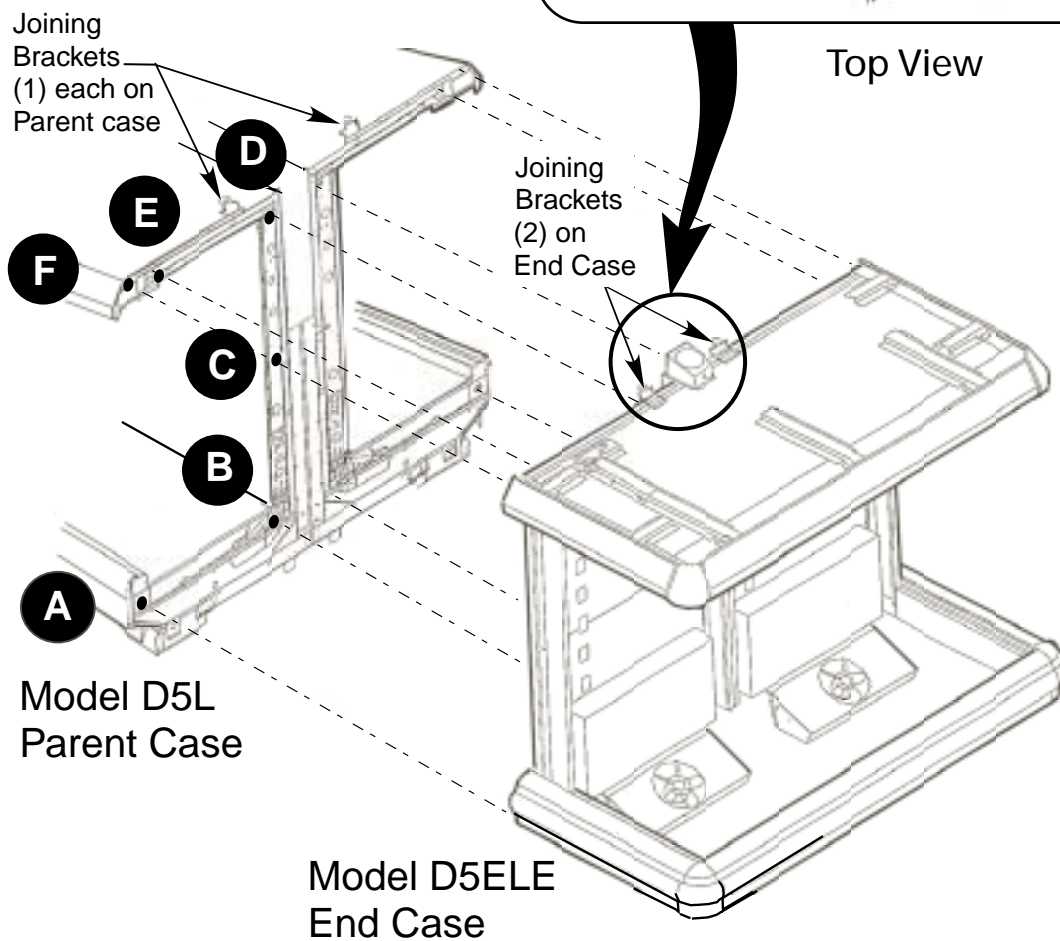

Fig. 5. Sequence of bolting cases together
NOTE: WHEN BOLTING THE CASES TOGETHER, BE SURE TO FOLLOW THE SEQUENCE SHOWN BELOW IN FIGURE 5 AND ON PAGE 5.
6 Install (4) Joining Brackets - 3, using Screws - 4 as shown in Figure 5 below.